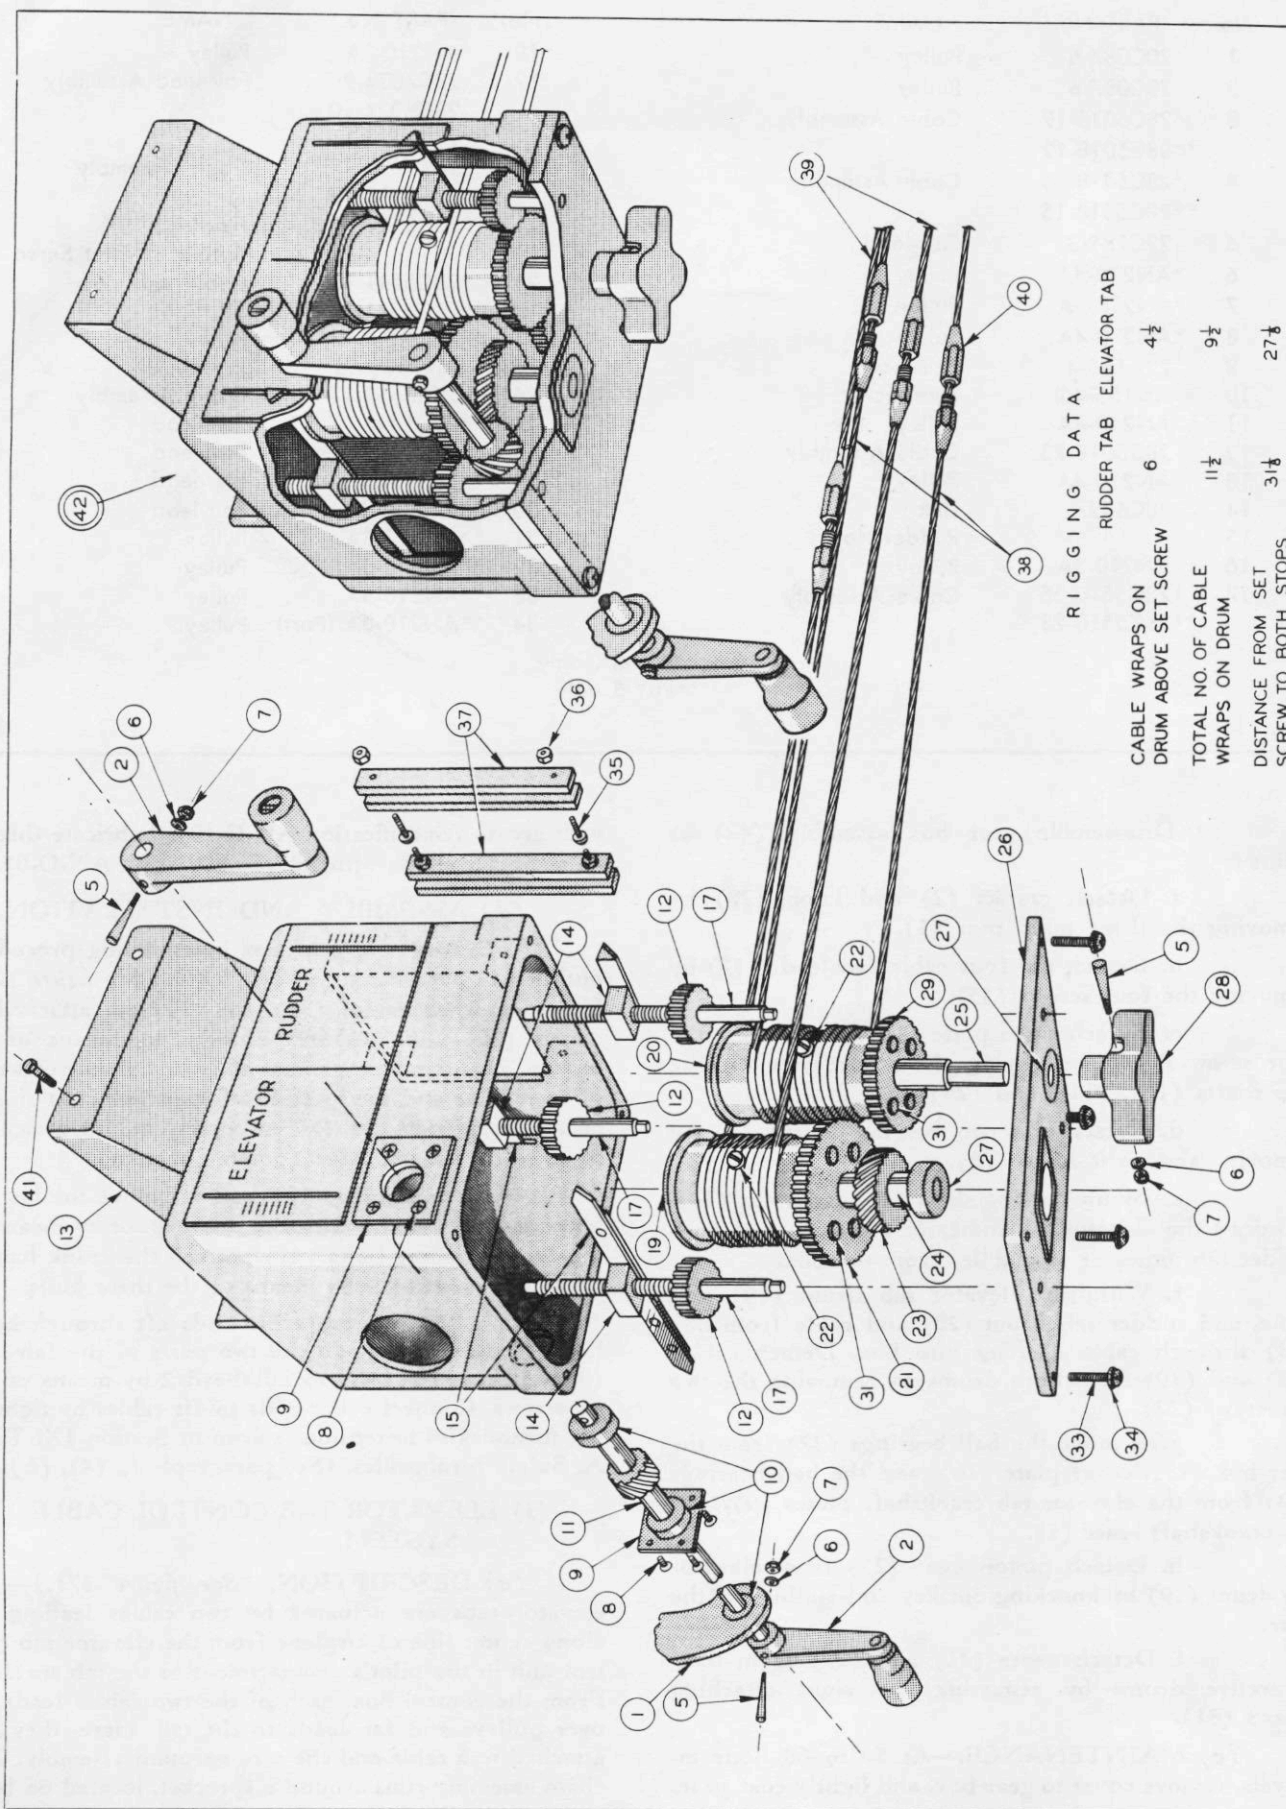
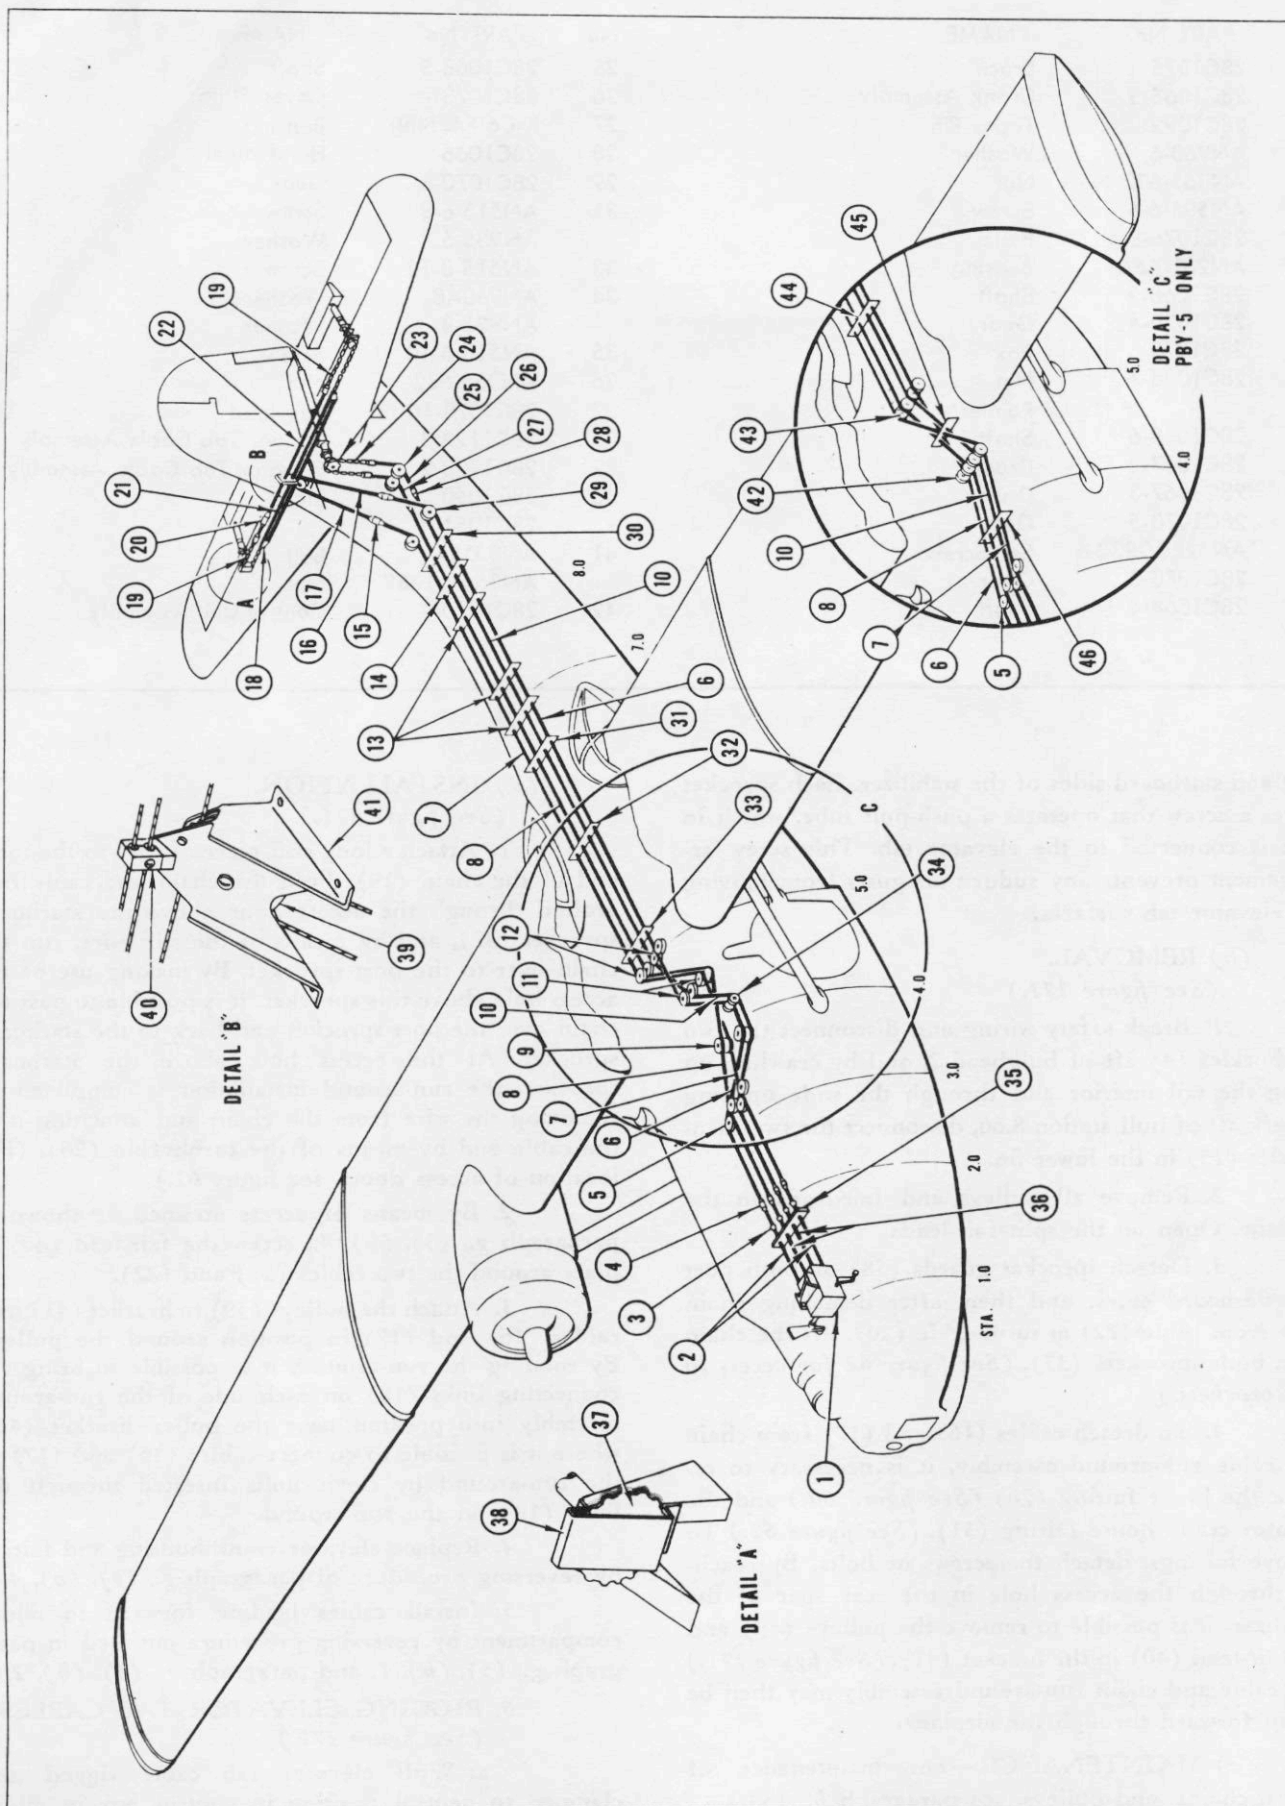

Figure 170—Elevator and Rudder Tab Control Unit
Figure 171—Elevator and Rudder Tab Control System
(a) DESCRIPTION. (See figure 170.)—The elevator and rudder tab control unit is enclosed by a casting mounted above the pilot and copilot on center
1. Break safety wiring and connections of the ends of the two cables (2) and (36) at the four turnbuckles (4) aft of bulkhead 2. (See figure 171.)
2. Detach the two parts of the fair-lead (35) on bulkhead 2 by removing the six screws.
3. Detach elevator crank shaft brace (1) from stringer by removing the three bolts. Remove entire gear box assembly (42) by withdrawing the four bolts (41) that hold it in place. (See figure 170.)
1. Assemble gear box by reversing procedure outlined in paragraph g., (2), (b), 4. (See figure 170.) However, when cables (38) and (39) are attached to drums (20) and (19) respectively, by means of set screws (22), the arrangement and the number of wraps of each cable and the location of the stops (40) should be as noted in figure 170 to correspond to a neutral setting of each indicator (pointer at zero).
2. Attach the gear box assembly to the airplane structure above the pilot and copilot by means of the four attaching bolts (41). Attach the crank handle brace (1) to stringer by means of the three bolts.
3. Run the tab cable ends aft through bulkhead 2, and then attach the two parts of the fair-lead (35) (See figure 171.) to bulkhead 2 by means of the six screws. Connect cable ends to aft cables by tightening turnbuckles to tensions shown in Section IX, Table A. Safety turnbuckles. (See paragraph d., (4), (b), 6.)
(a) DESCRIPTION. (See figure 171.)—The elevator tabs are actuated by two cables leading aft along center line of airplane from the elevator tab control unit in the pilot's compartment to the tab surfaces. From the control box, each of the two cables leads aft over pulleys and fair-leads to the tail. Here, they are attached to a cable and chain run-around assembly. The chain assembly runs around a sprocket, located on both
(See figure 171.)
4. To detach cables (16) and (17) from chain and cable run-around assembly, it is necessary to remove the lower fairing (76) (See figure 60.) and the elevator crank house fairing (31). (See figure 62.) To remove fairings, detach the screws or bolts. By reaching through the access hole in the rear spar of the stabilizer, it is possible to remove the pulleys (39) and the fair-lead (40) in the bracket (41). (See figure 171.) The cable and chain run-around assembly may then be drawn forward through the airplane.
(a) DESCRIPTION. (See figure 171.)—From the rudder tab control unit each of the two cables leads aft over five pulleys to the tail. Here, the two cables are attached to a chain which wraps around a sprocket located in the fin. A screw mechanism, fastened to the sprocket shaft, is connected to a push-pull rod assembly, which in turn is fastened to the rudder tab. This screw arrangement prevents any sudden air gusts from moving the rudder tab surface.
1. Break safety wiring and disconnect the two turnbuckles (4) aft of bulkhead 2, and the two turnbuckles (15) aft of station 8.66. (See figure 171.)
3. In order to remove the chain (24) from the sprocket (23), it is necessary for a small man to crawl to the extreme aft end of the hull by passing through the openings in the two sloping fin bulkheads. By standing up, he can reach and detach the chain from the sprocket.
4. Remove the two cables (8) and (10) and the chain assembly from the airplane.